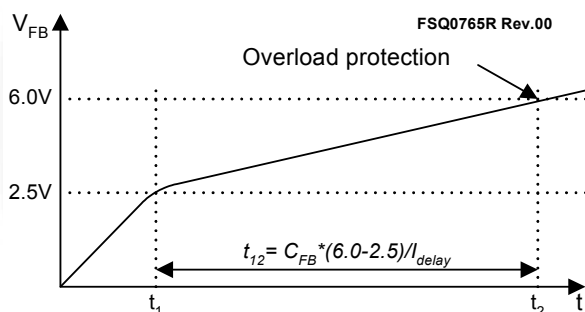

Figure 29. Overload Protection
4.1 Overload Protection (OLP): Overload is defined as the load current exceeding its normal level due to an unexpected abnormal event. In this situation, the protection circuit should trigger to protect the SMPS. However, even when the SMPS is in the normal operation, the overload protection circuit can be triggered during the load transition. To avoid this undesired operation, the overload protection circuit is designed to trigger only after a specified time to determine whether it is a transient situation or a true overload situation. Because of the pulse-by-pulse current limit capability, the maximum peak current through the SenseFET is limited, and therefore the maximum input power is restricted with a given input voltage. If the output consumes more than this maximum power, the output voltage (V_O) decreases below the set voltage. This reduces the current through the opto-coupler LED, which also reduces the opto-coupler transistor current, thus increasing the feedback voltage (V_{FB}). If V_{FB} exceeds 2.5V, D1 is blocked and the 5 μ A current source starts to charge CB slowly up to V_{CC} . In this condition, V_{FB} continues increasing until it reaches 6V, when the switching operation is terminated, as shown in Figure 29. The delay time for shutdown is the time required to charge C_{FB} from 2.5V to 6V with 5 μ A. A 20 ~ 50ms delay time is typical for most applications.